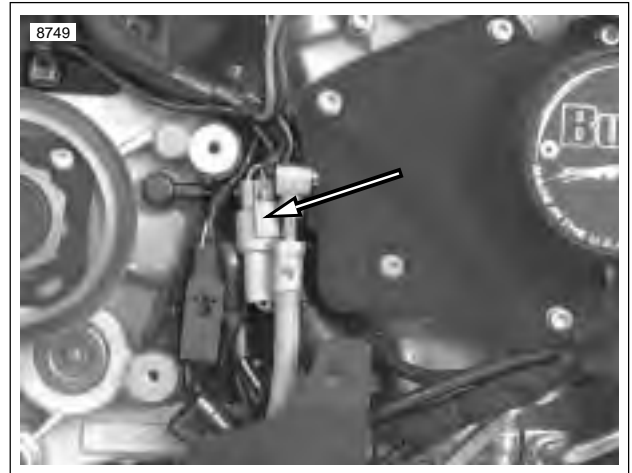

Figure 7-84. Vehicle Speed Sensor Connector [65]
7. Use cable strap (5) to secure cam position sensor (1), cam position sensor wiring (3), neutral switch connector (4) and neutral switch connector wiring (6).
8. See Figure 7-84. Connect vehicle speed sensor connector.